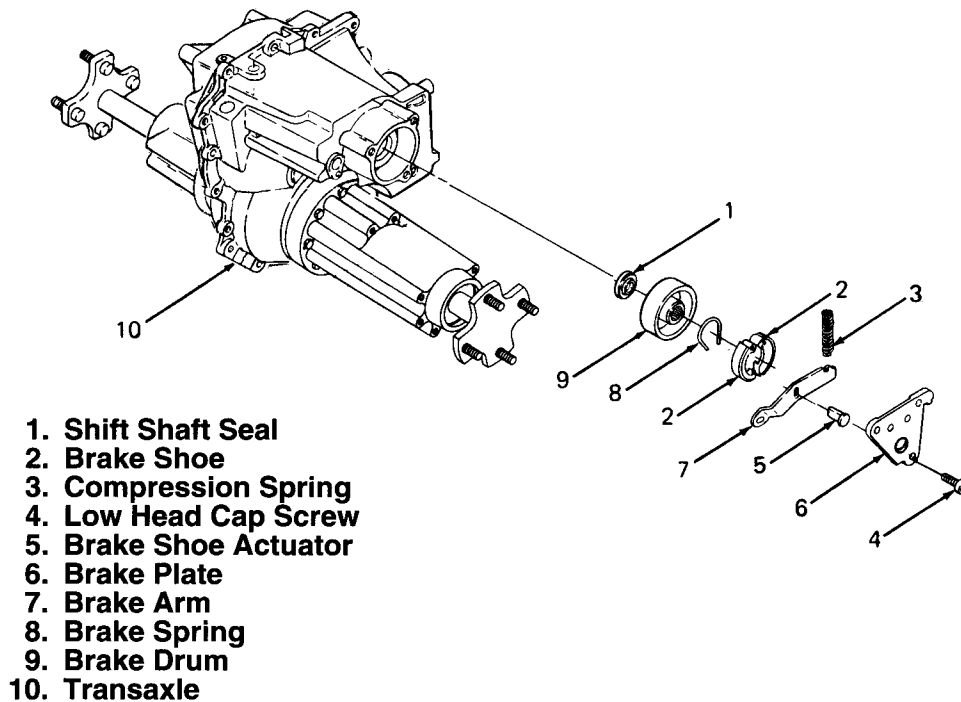

Figure 5-33. Brake Assembly (All Models).
2. Remove the low head cap screw (4, Fig. 5-33) securing the brake assembly components (2, 3, 5, 6, 7, and 8) to the transaxle (10), then remove the brake assembly.
3. Remove the brake drum (9) from the transaxle (10).
4. If leaking oil, or otherwise damaged, pry the shift shaft seal (1) out of the transaxle (10).